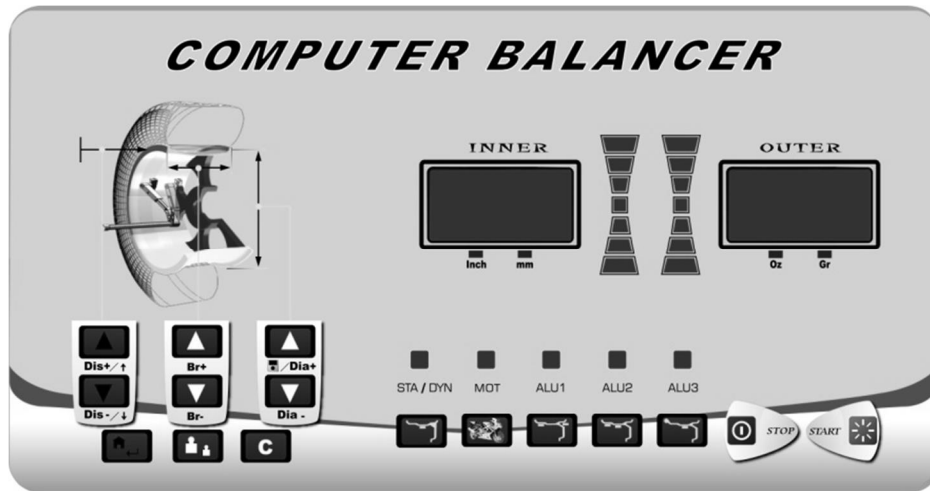

Fig. 6.
- The machine control panel is shown in **Fig. 6**. The control panel allows the operator to give commands and enter or edit data. The same control panel displays the machine balancing results and messages.